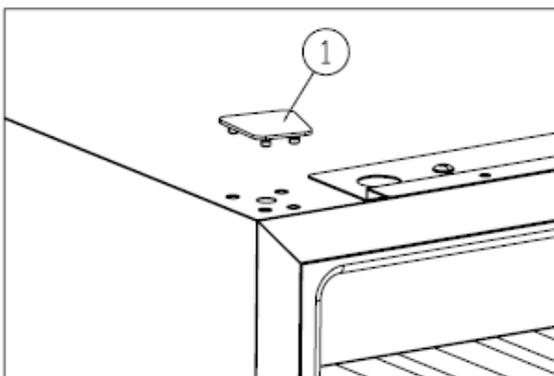

Figure 3
- ✧ Retirer le couvercle germinal① [Figure 3].